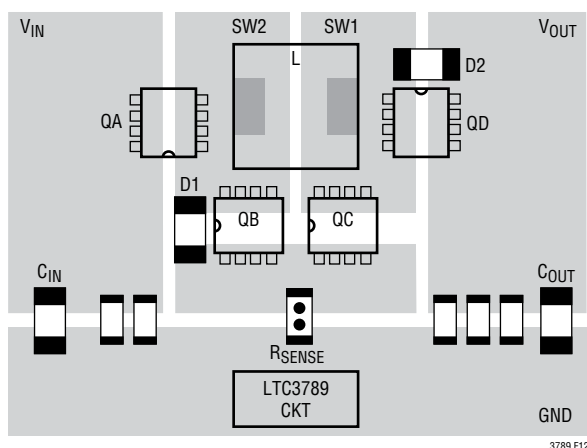

Figure 12. Switches Layout
- Place  $C_{IN}$ , switch A, switch B and D1 in one compact area. Place  $C_{OUT}$ , switch C, switch D and D2 in one compact area. One layout example is shown in Figure 12.